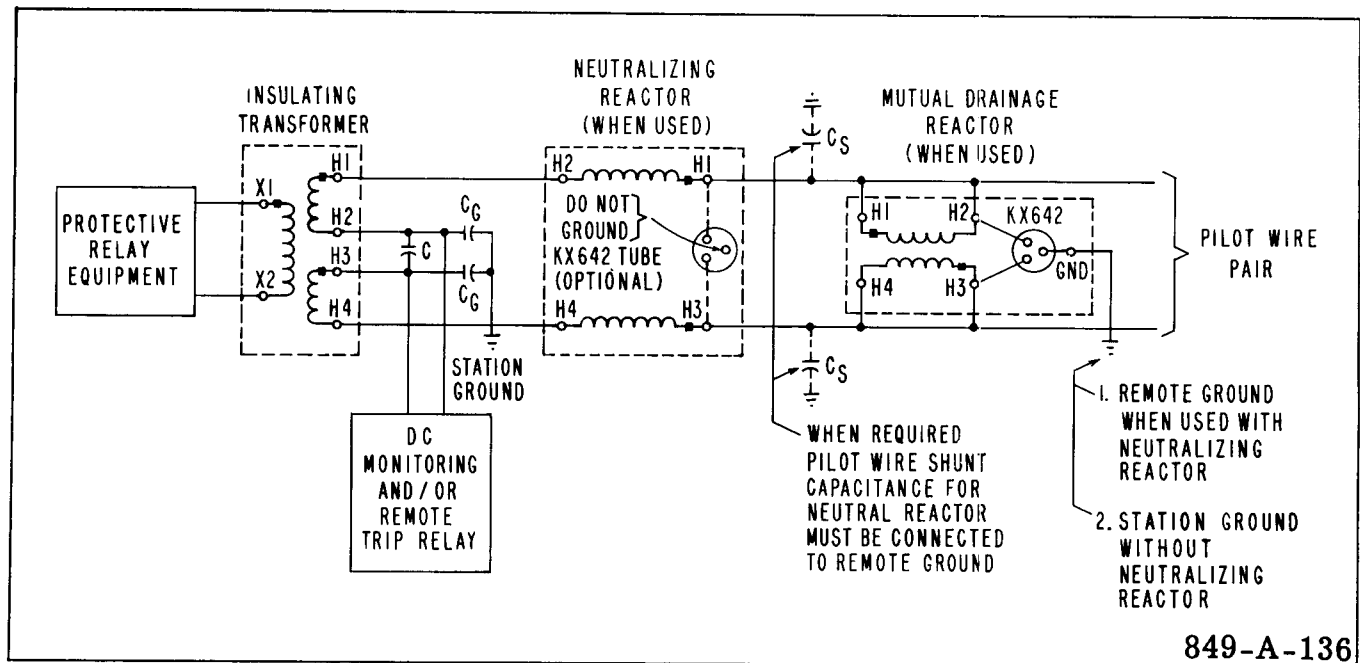

Fig. 1. External Schematic for Pilot Wire and Protective Equipment for HCB and HCB-1 Relaying.
The insulation and protection equipment shown in Fig. 1. is used with the HCB or HCB-1 pilot wire relay. A complete installation for one terminal of a line consists of an insulating transformer, neutralizing reactor, capacitors, mutual drainage reactors and neutralizing reactor KX642 tube.
The AC bypass capacitor (C) is required only when DC monitoring and/or remote trip relays are used. Otherwise connect H2 to H3 on the insulating transformer (refer to Fig. 1.). Use a 10 ufd capacitor for 50/60 HZ applications or a 25 ufd capacitor for 25 HZ applications.